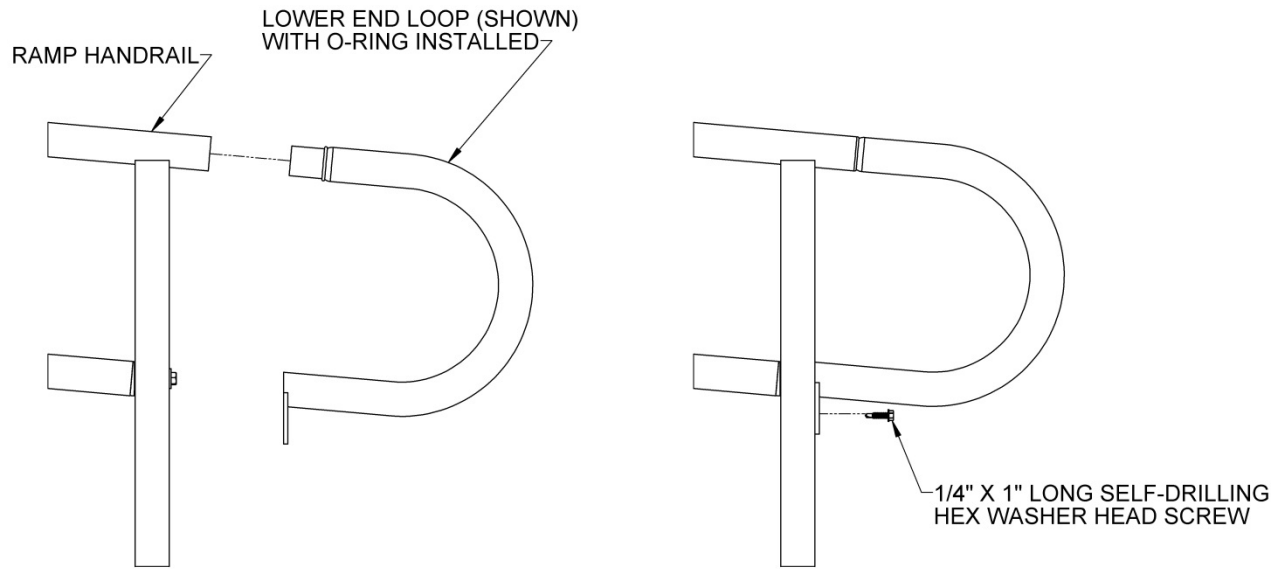

FIG. 6.6
6.2.1.1. Install one 1/4" x 1" long hex washer head self-drilling screw through the hole in the end loop attachment plate into the ramp handrail post and tighten securely (FIG. 6.6).